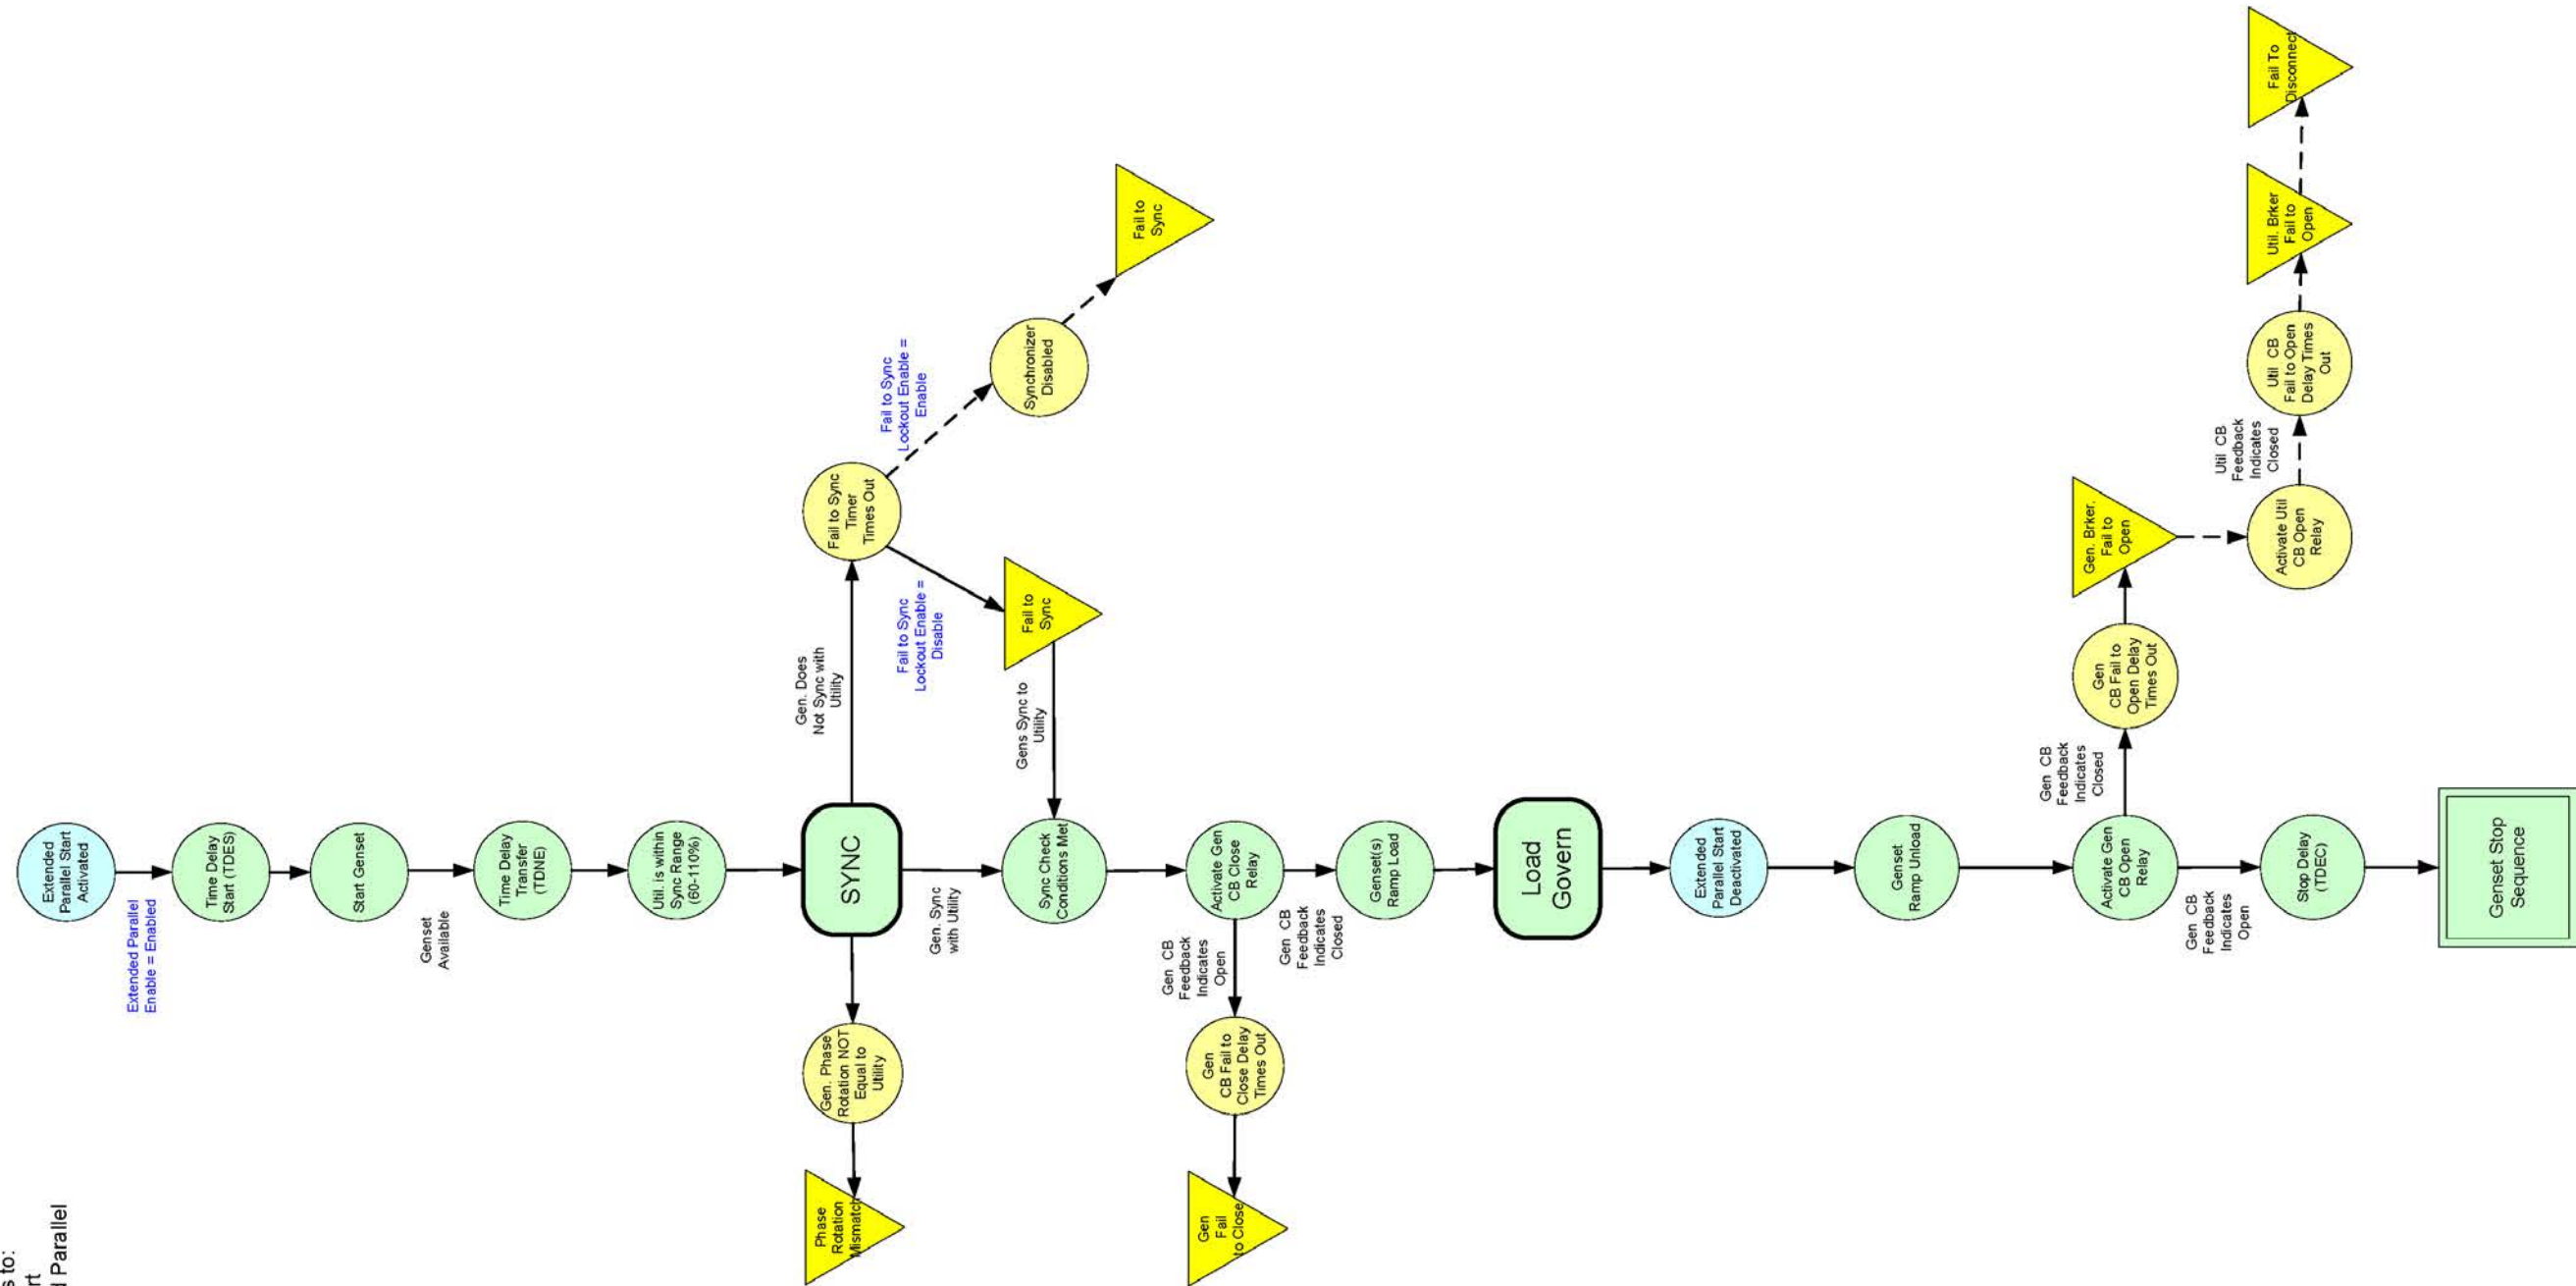

FIGURE 153. POWER TRANSFER CONTROL: EXTENDED PARALLEL
- Figure 153. Power Transfer Control: Extended Parallel 685